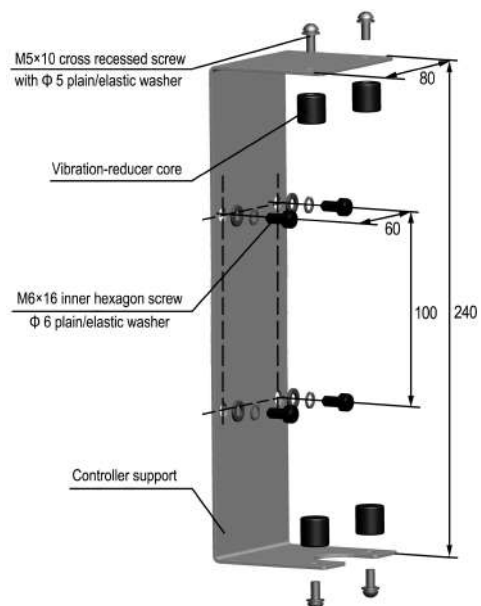

Fig2.2 Controller support
2. According to the mounting dimensions of controller support, fix the support well, as shown in Fig2.2.